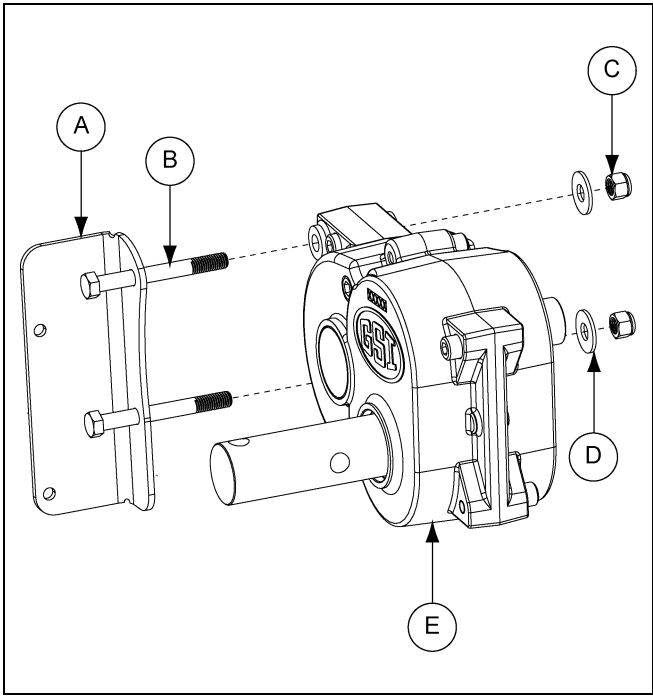

Figure 4AS
1. Join the housing bracket (A) and the gear driven reduction wheel together with two (2) 1/2" x 4-1/2" grade 5 bolts (B), two (2) flat washers (D) and two (2) nylock nuts (C). (See Figure 4AS.)